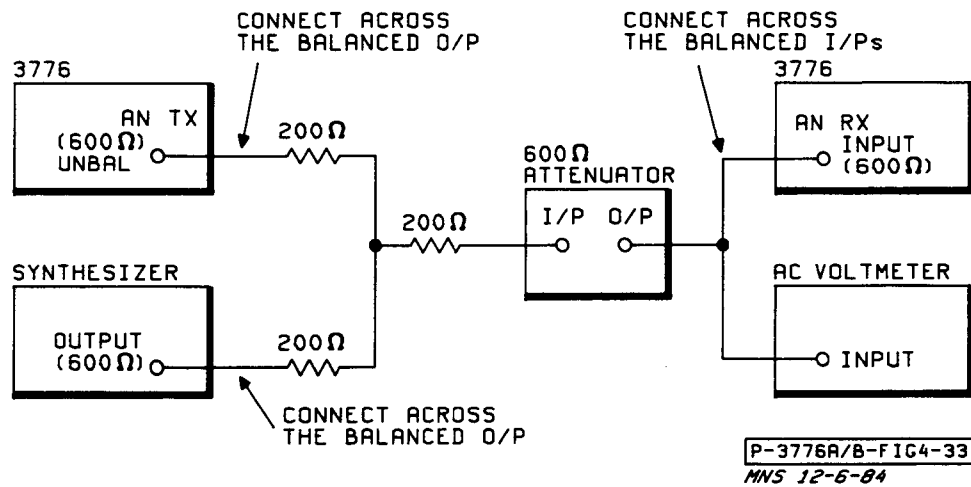

Figure 4-33 Phase Jitter Test Set-up
1. Connect the equipment as shown in Figure 4-33.